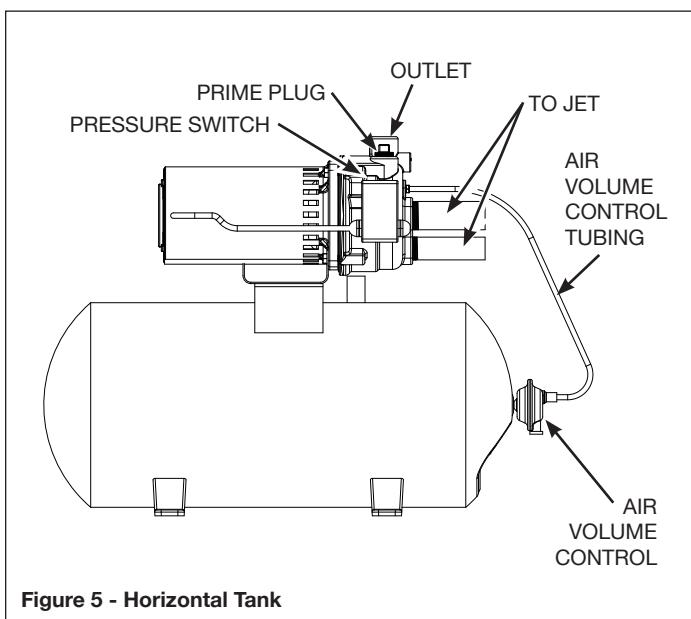

Figure 5 - Horizontal Tank
**DEEP WELL PUMP WITH HORIZONTAL AND VERTICAL STORAGE TANK (FIGURES 5 AND 6)**